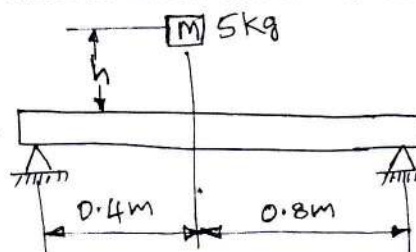

Fig.Q3(b)
b. A 5kg block is dropped from a height of 200mm on to a beam as shown in Fig.Q3(b). The material has an allowable stress of 50MPa. Determine the dimensions of the rectangular cross section whose depth is 1.5 times the width. Take  $E = 70 \text{ GPa}$ .